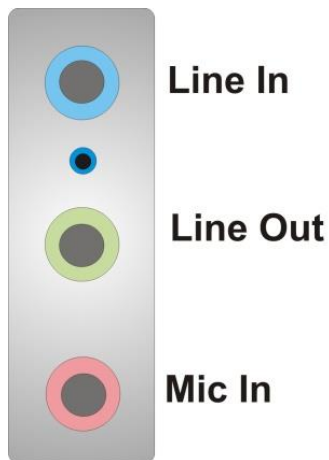

Figure 3-31: Audio Connector
- CN Location:** See **Figure 3-31**